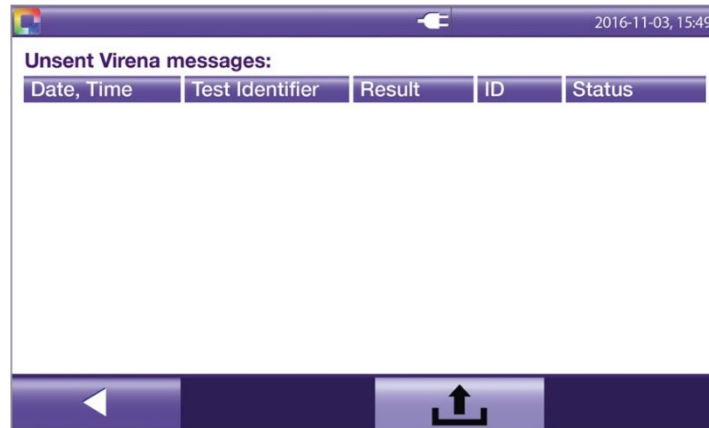

Figure 31
- View any displayed messages (**Figure 31**).